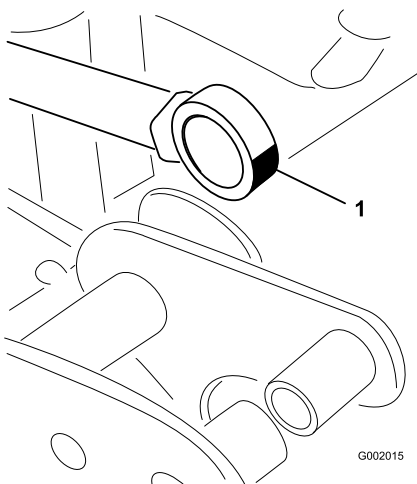

Figure 51
5. Manipulate the actuator rod bearing end and apply grease into the bearing (Figure 51). Wipe off excess grease.